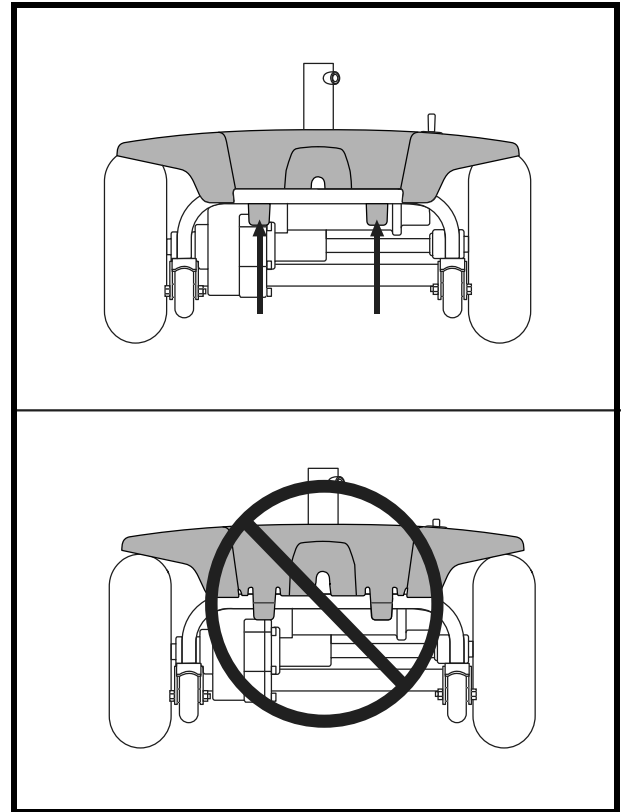

Figure 9. Locking Tabs on Scooter Body Shroud (rear view)
- Lower the scooter shroud over the unit and snap the locking tabs in place behind the rear frame bar. See figure 9.